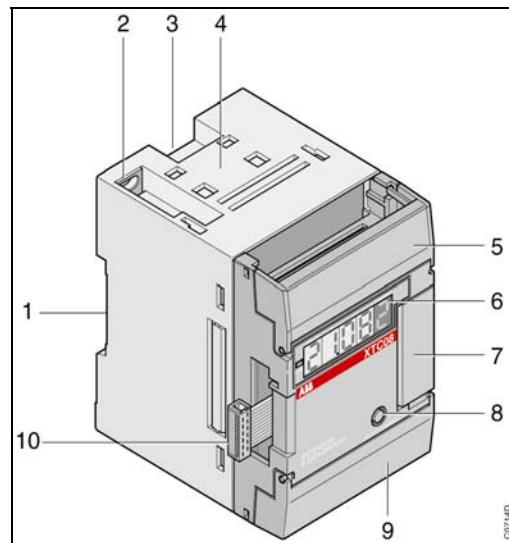

Figura 1-2: Display analógico XTC 08
1.1. Frontal (ver Error! Reference source not found., Figura 1-2)